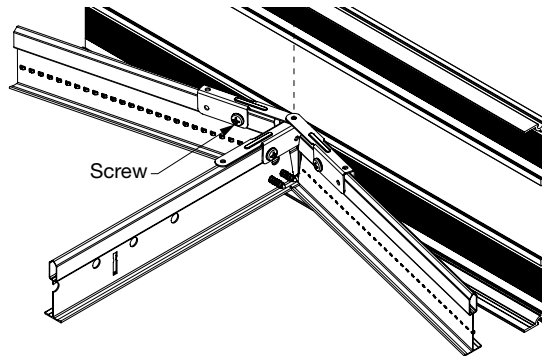

Fig 49
- Once the position has been verified, clamp the PAC to the cut XM Cross Tee and attach with one screw through the side of the clip and into the bulb (**Fig 49**)